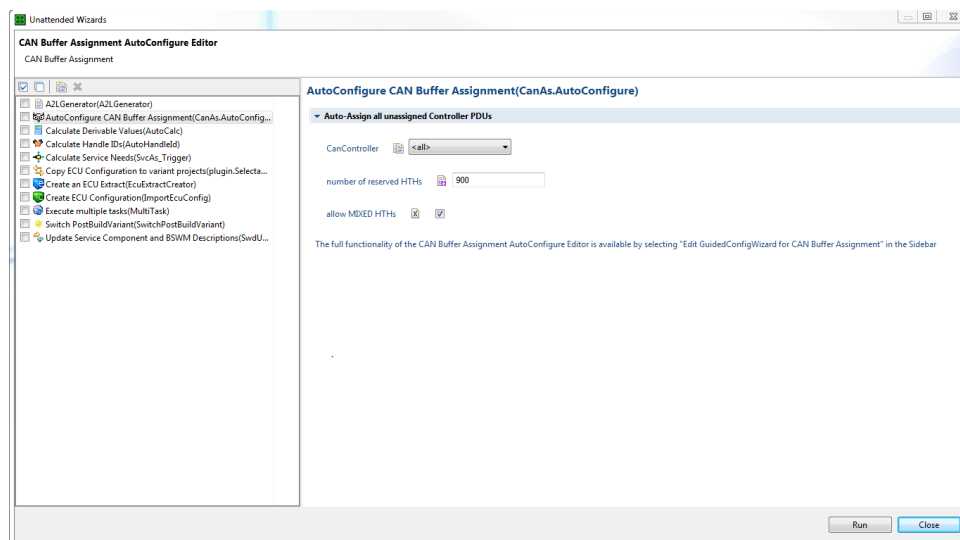

Figure 4.11. Configuring the Unattended Wizard for the automatic CAN Buffer assignment.
3. Configure the CanController, the number of reserved HTHs and if mixed HTHs are allowed in the window that appears, see Figure 4.11, “Configuring the Unattended Wizard for the automatic CAN Buffer assignment.”